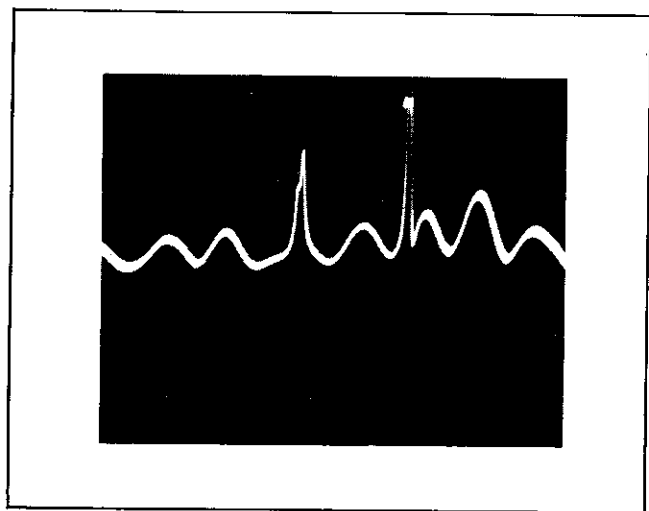

Figure 5-20. Typical Small Overlap Display
- j. If condition of step i is not met, reconnect oscilloscope and repeat steps e and f adjusting for more or less overlap as required (Figure 5-20 and 5-21).
- s. If condition of step r is not met, reconnect oscilloscope and repeat steps n and o adjusting for more or less overlap as required (Figures 5-20 and 5-21).